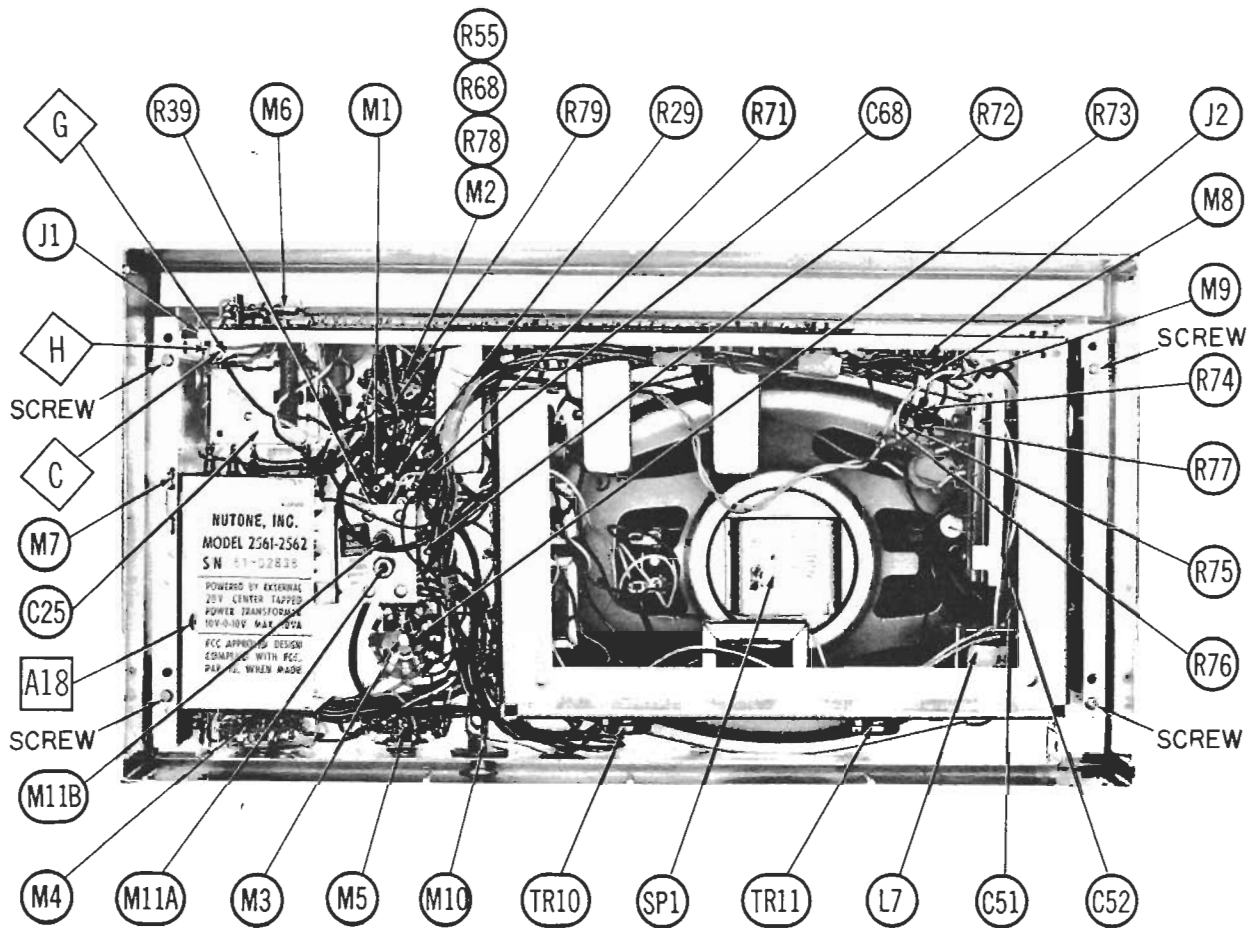

Fig. 3. Rear view of master station.
3. Remove four (4) screws (Fig. 3) from main chassis side support brackets and remove front panel.
4. To gain access to components of the power supply, audio output, audio amplifier, and IF sub assemblies, remove four (4) screws securing master speaker to main chassis.
5. For access to components of the FM tuner assembly, remove AM tuning dial. Remove two (2) hex head screws under AM tuning dial, and one (1) hex head screw below FM tuning dial. Disconnect any associated wiring necessary for removal and temporarily re-connect for test.